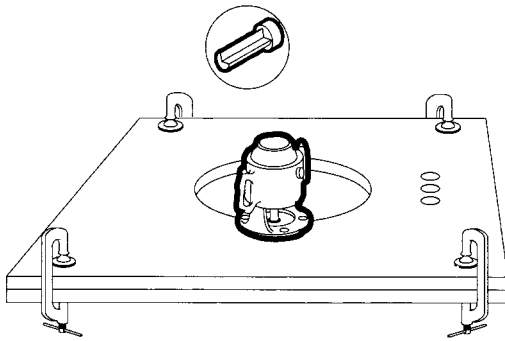

Figure 26
- Clamp the bowl cutout template in position (see Figure 26).